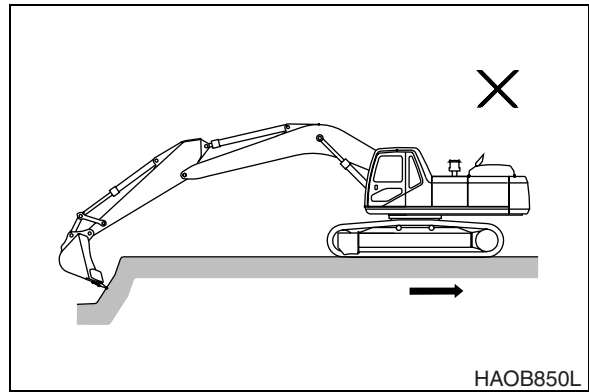

Figure 55
6. Do not use machine travel or swing when the bucket is in the ground to provide additional breakout force. See Figure 55.